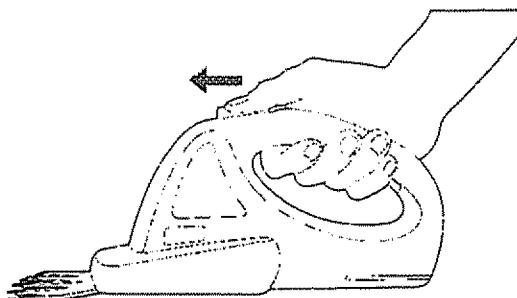

Figure 1.
1. **To turn tool ON** slide the safety switch on top of the handle FORWARD with your thumb. Hold it FORWARD momentarily, while squeezing the trigger switch (located under the handle). See Figure 1.